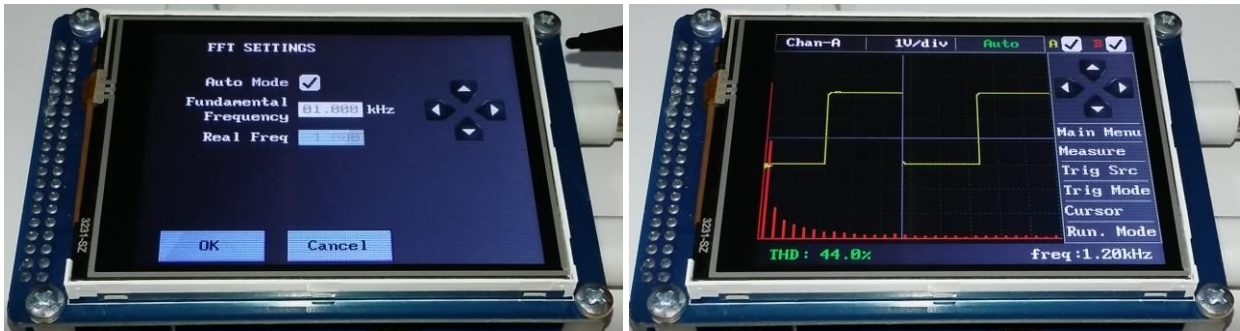

Figure 15. Square wave FFT analysis in automated mode
The 'Auto Mode' checkbox must be checked on the 'FFT settings' page in the 'Settings' menu in order to perform analysis in automatic mode. When operating in FFT analysis mode with automatic mode, the horizontal sensitivity section (3) is disabled and called as 'Auto' (Figure 15).